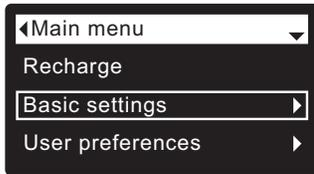

FIG. 51
1. From any of the rolling status screens, press the **SELECT** (O) button to display the **Main menu**.
2. Press the **DOWN** (▼) button to scroll through the menu options until **Basic settings** is highlighted (See Figure 51).